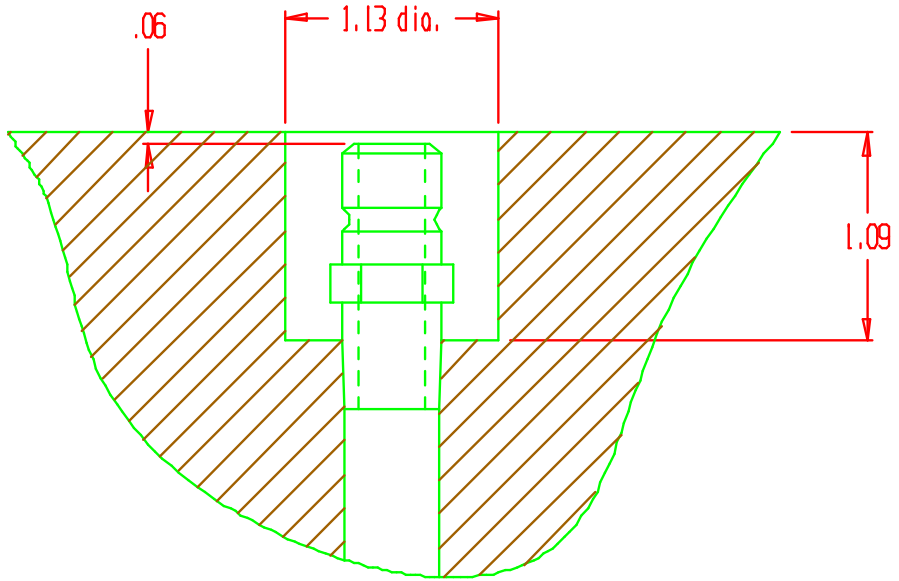

figure 4-7
- 4.6.6 When possible, water line connectors should be recessed 1/16" below surface of mold to prevent damage. See figure 4-7.